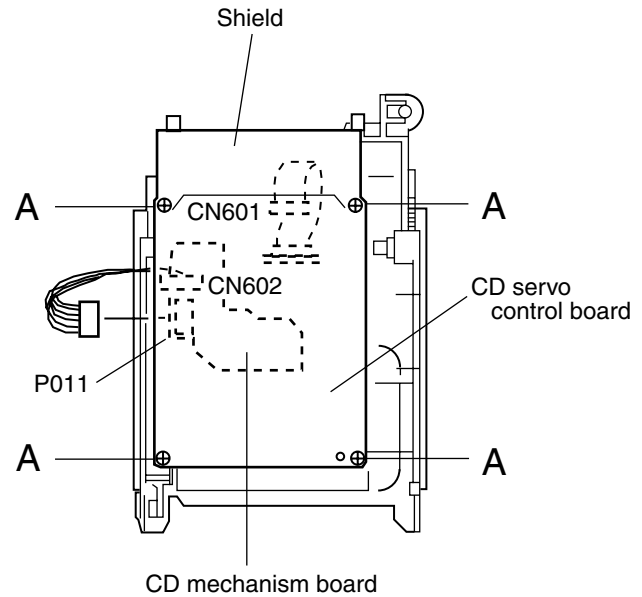

Fig. 1
■ Removing the CD mechanism and CD servo control P.C. board (See Fig. 1 and 2)